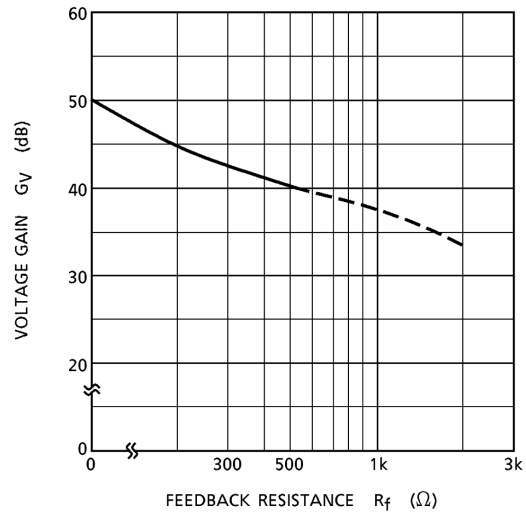

Fig.2
The voltage gain is reduced when R_f is increased. (Fig.2) With the voltage gain reduced, since (1) the oscillation stability is reduced, and (2) the pop noise changes when V_{CC} is set to on, refer to the items 3 and 4.